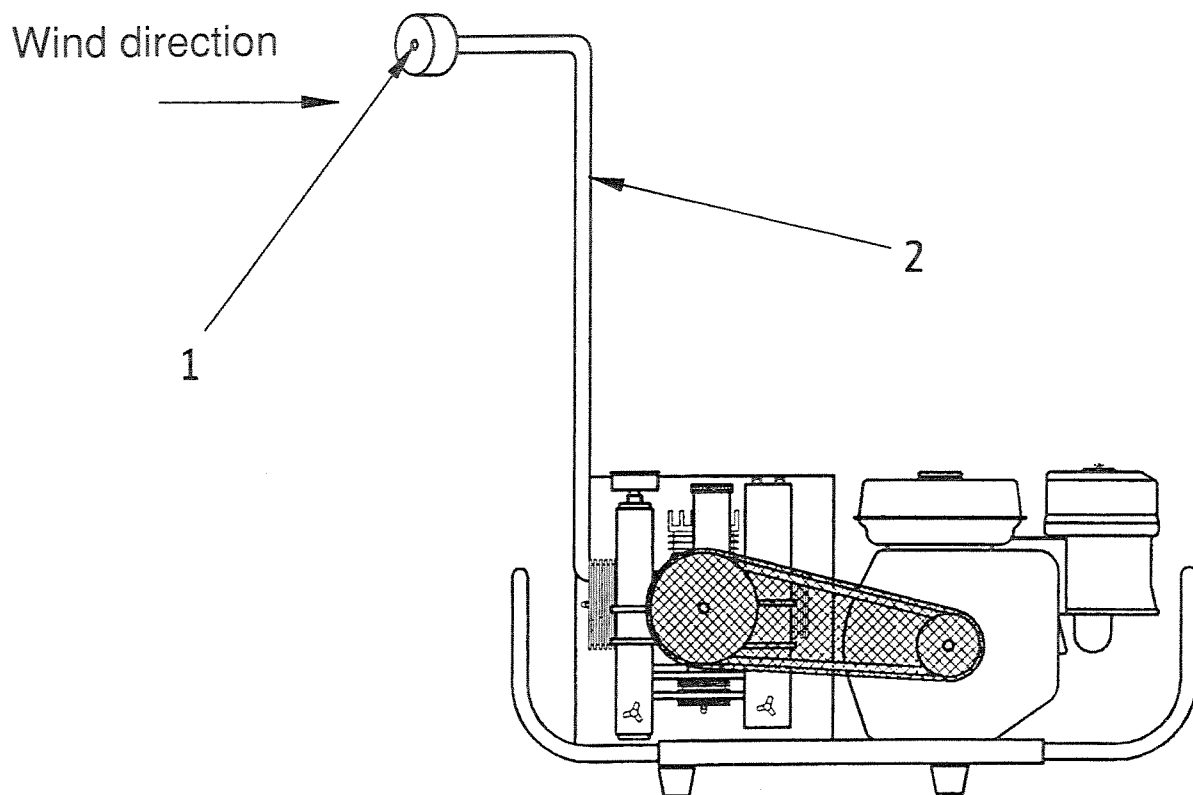

Fig. 08 Remote positioning of the intake filter
3. Locate the unit in a well ventilated area, away from atmospheric phenomena and make sure what the wind direction is, in order to position the intake filter adequately. See figure 08.